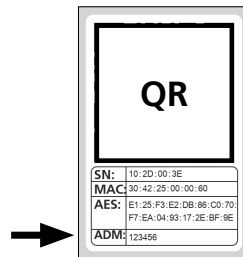

Fig. 9
**!** **Note:** The randomly generated administrator code can be found on the enclosed QR code sticker under "ADM" (Fig. 9). The administrator code can be changed at any time at a later date. Refer to the master operating instructions on our website for an explanation on this subject (see link on the title page).